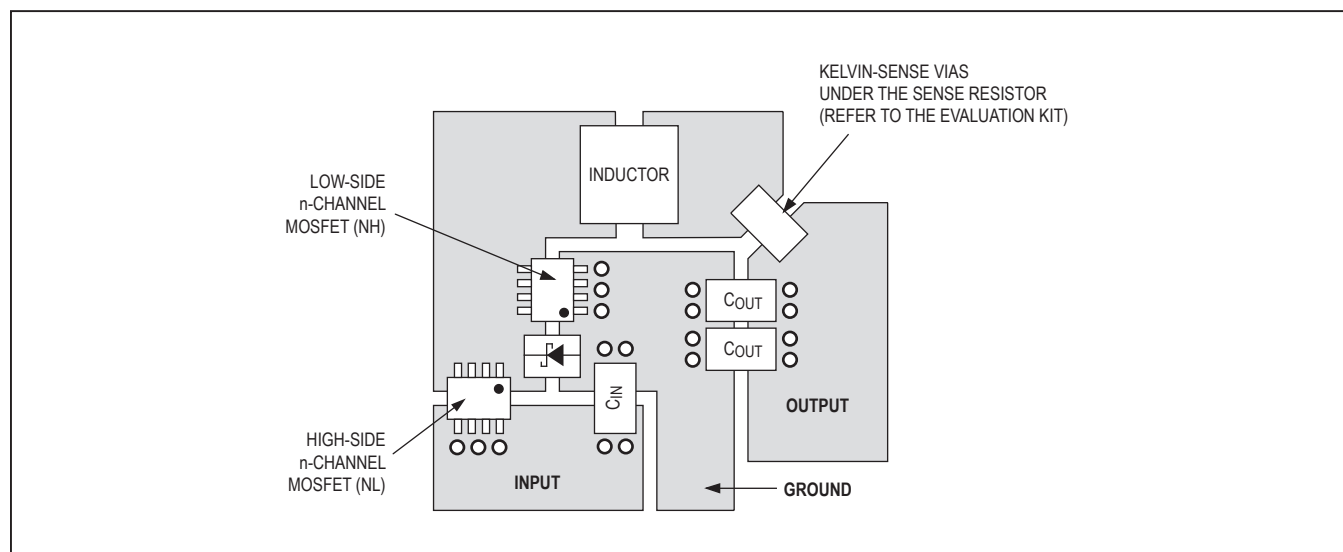

Figure 4. Layout Example
Careful PCB layout is critical to achieve low switching losses and clean, stable operation. The switching power stage requires particular attention (Figure 4). If possible, mount all the power components on the top side of the board, with their ground terminals flush against one another. Follow these guidelines for good PCB layout:
- 4) Make the DC-DC controller ground connections as shown in Figure 4. This diagram can be viewed as having two separate ground planes: power ground, where all the high-power components go; and an analog ground plane for sensitive analog components. The analog ground plane and power ground plane must meet only at a single point directly under the IC.